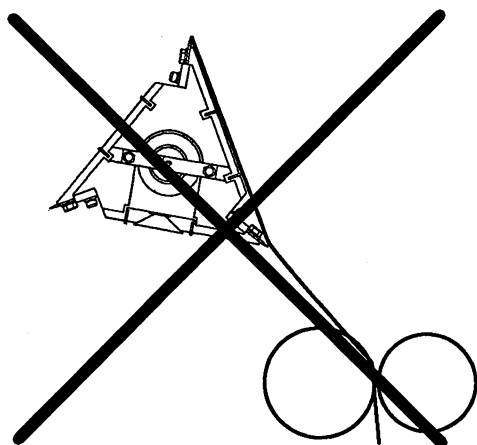
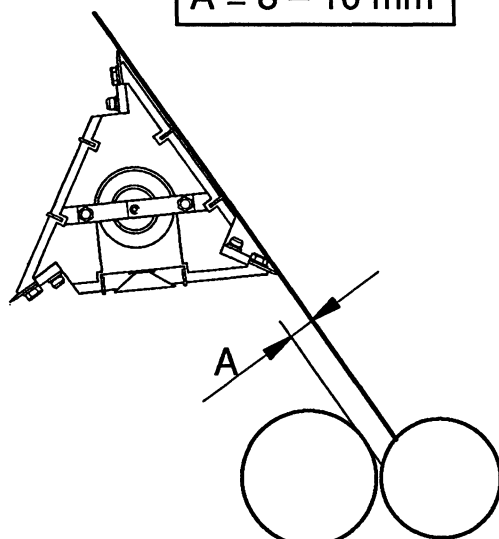

Fig. 3
Fig. 4
- Place a ruler (1) on the crease wheel.
- To adjust, loosen the setting screw (2) and turn the plate to the correct position. Tighten the screw.
- With the machine in step **Production**, make sure that the packaging material is not forced off the suction cups, see fig. 3 and fig. 4. If required, stop the machine and adjust.